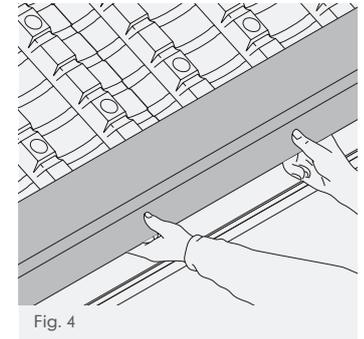

Fig. 4
- 6 For 25mm kits, the underlay support tray should be laid so that the curved front edge dresses down over the fascia vent unit towards the gutter (each tray provides 600mm effective cover) (Fig 4).